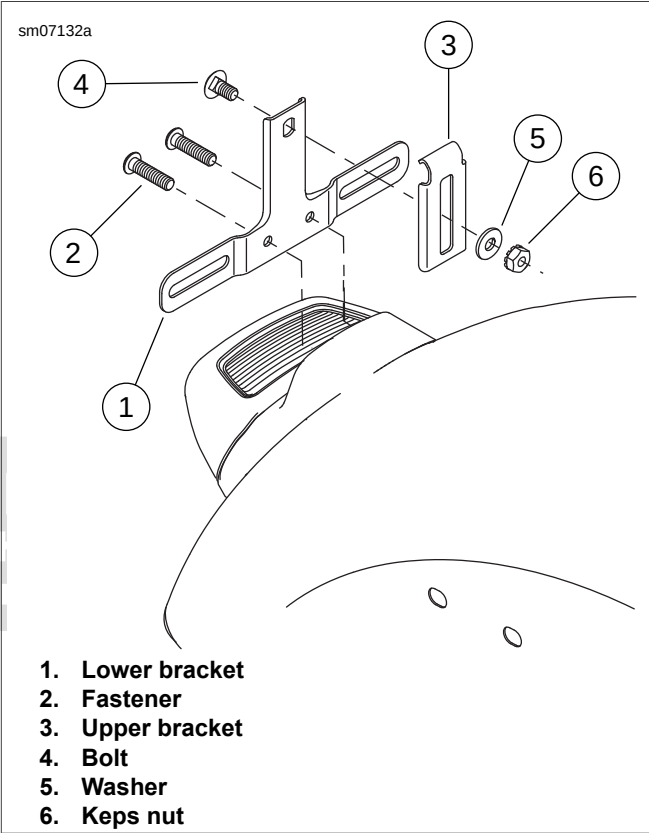

Figure 2-206. License Plate Bracket
1. See Figure 2-206. Disassemble the upper license plate bracket bolt (4), washer (5) and keps nut (6).
2. Remove the two fasteners (2) from the tail lamp base to remove the lower license plate bracket (1).
5. Assemble the upper bracket (3) with bolt (4), washer (5) and keps nut (6).